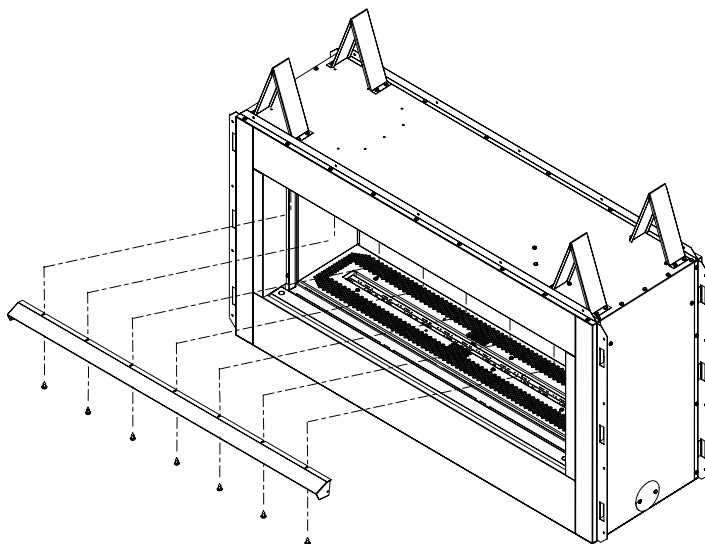

Figure 15 - Installing Hood
1. Loosen screws at top of face opening and slide hood through screws as shown in Figure 15.
1. Install hood as shown in Figure 15 page 10.